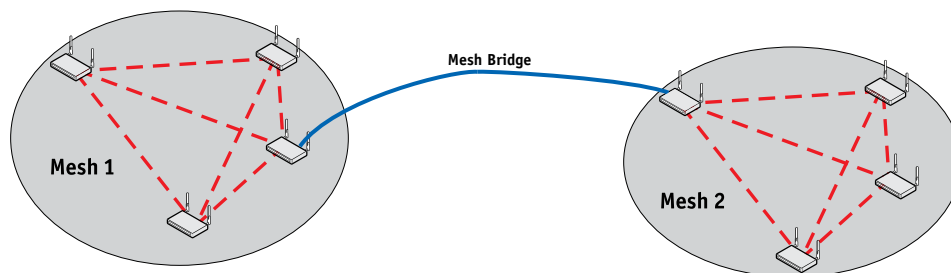

Figure 9. Basic Mesh Bridge Connection
Fundamentally, a **Mesh Bridge** exists when you define a connection between one of the Ethernet ports on a node on Mesh X and one of the Ethernet ports on a node on Mesh Y. The simplest case of this is shown in Figure 9, where a wired connection exists between the two meshes.
- Connection via a wired Ethernet connection. This is the simplest case, as shown in Figure 9.